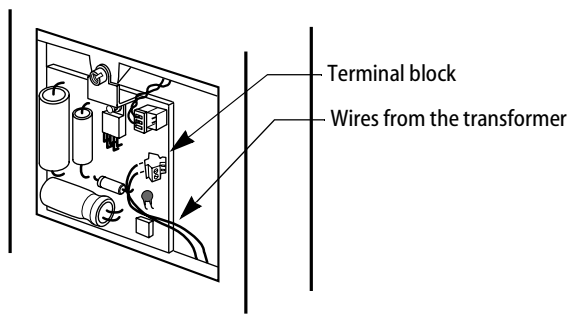

Figure 5—Connecting the transformer wires to the board
- 6 Connect the wires from the transformer to the terminal block on the external power circuit board as shown in Figure 5.